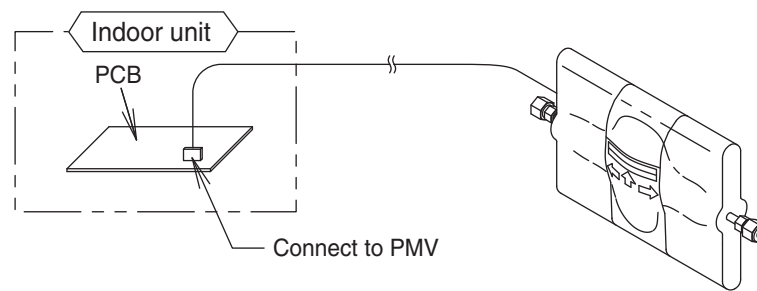

Fig. 3-175
- (1) Turn the power off.
- (2) Turn the power on.
- (3) Wait 1 minute after the power is on and then turn the power off again at the mains.
- (4) Open the electrical component box. From the control PCB, disconnect the connector to the indoor unit internal electronic expansion valve.
- (5) Connect the external electronic expansion valve connector to the indoor unit control PCB (PMV). (Fig. 3-175)